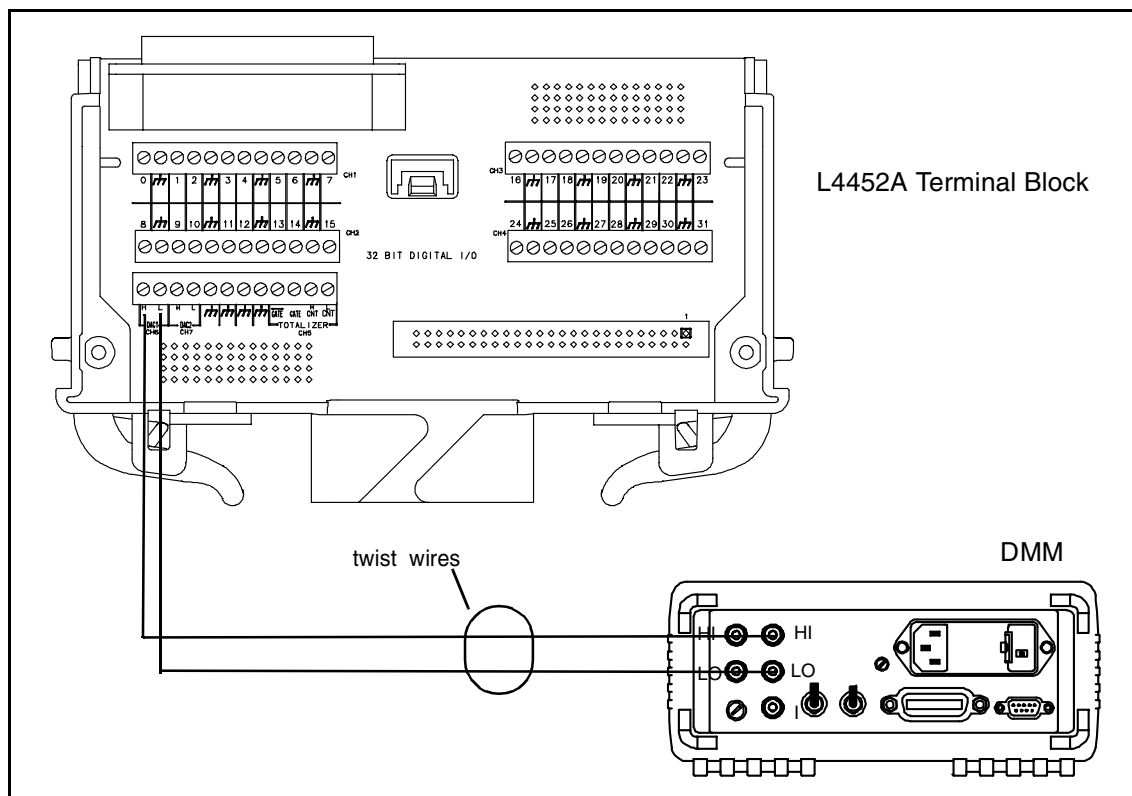

Figure A-3. L4452A DAC Output Connections (Channels 6 and 7).
The test connection for verifying the DAC output voltage on channels 6 and 7 of the L4452A are shown in Figure A-3.
- 3 Connect channel 6 of the L4452A as shown in Figure A-3. Configure the L4452A to output the voltages listed in Table A-5. For each voltage level measured, subtract the offset voltage recorded in Step 2 as applicable. The results should be within the limits listed in Table A-5.
4 Connect channel 6 of the L4452A to the DMM as shown in Figure A-3. Set the DMM to measure DC volts.
7 Connect channel 7 of the L4452A to the DMM as shown in Figure A-3. Repeat Steps 5 and 6 for channel 7.